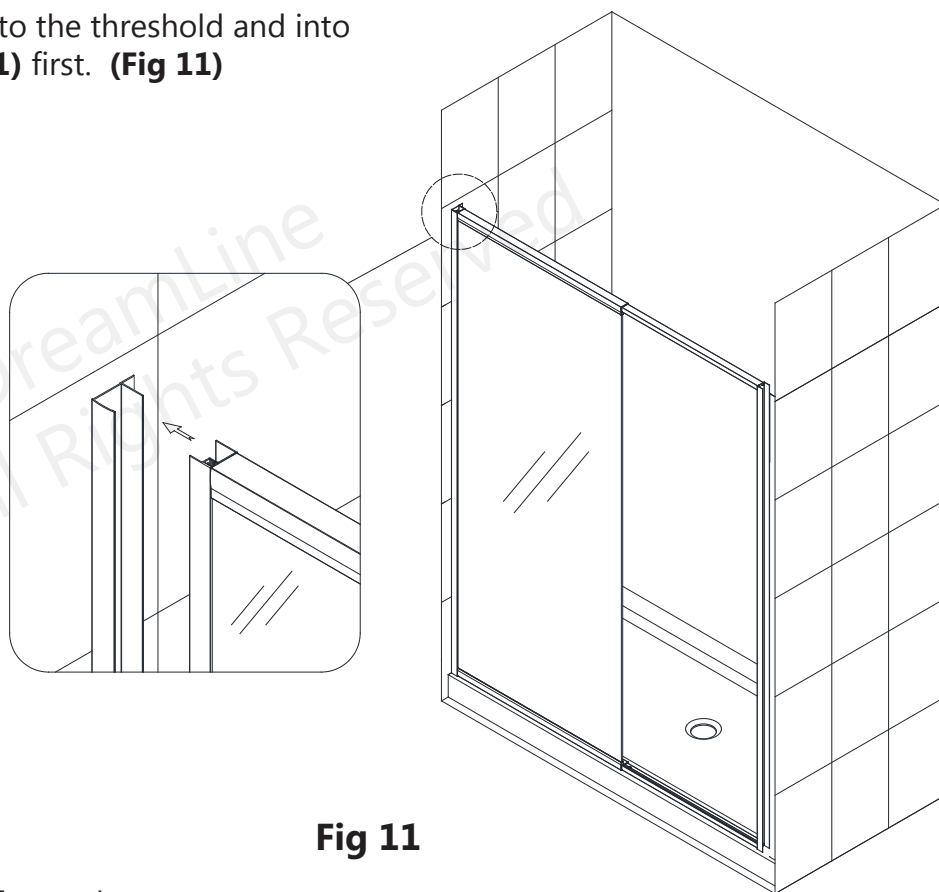

Fig 11
11. Place the assembly back onto the threshold and into the panel-side **Wall Profile (#01)** first. **(Fig 11)**